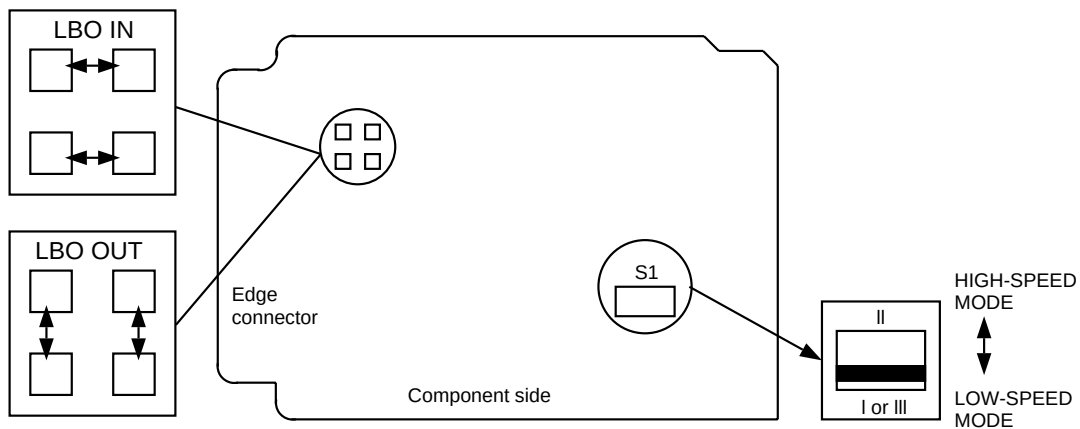

Figure 1. BBG6 STS1E Option Settings
3. Refer to Table A and Figure 1. Install the STS1E option jumpers per Table A.